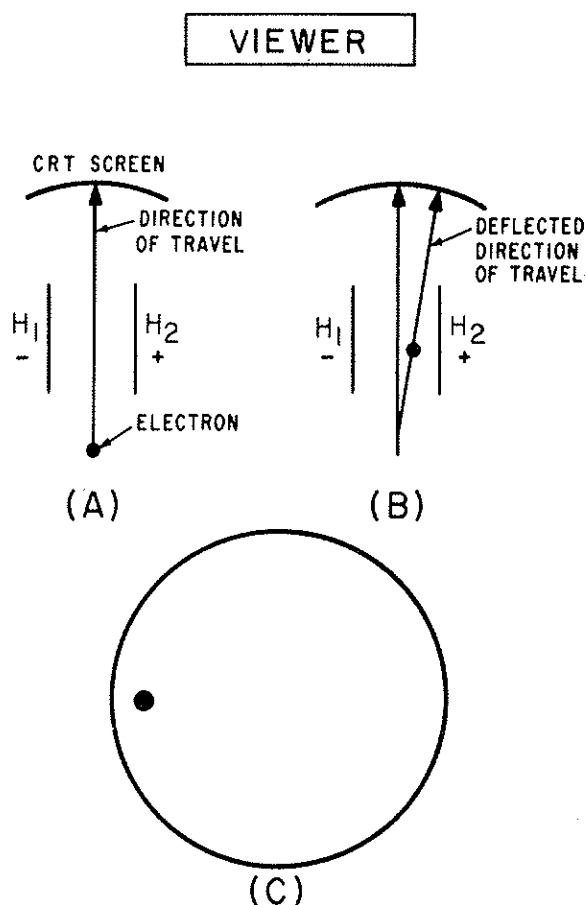

Figure 2-24.—Deflection in a CRT.
**ELECTROSTATIC DEFLECTION** uses principles you are already familiar with. Namely, opposites attract, and likes repel. Look at figure 2-24, view (A). Here you see an electron traveling between two charged plates  $H_1$  and  $H_2$ . As you can see, before the electron reaches the charged plates, called **DEFLECTION PLATES**, its flight path is toward the center of the screen. In view (B), the electron has reached the area of the deflection plates and is attracted toward the positive plate  $H_2$  while being repelled from the negative plate  $H_1$ . As a result, the electron is deflected to the right of the